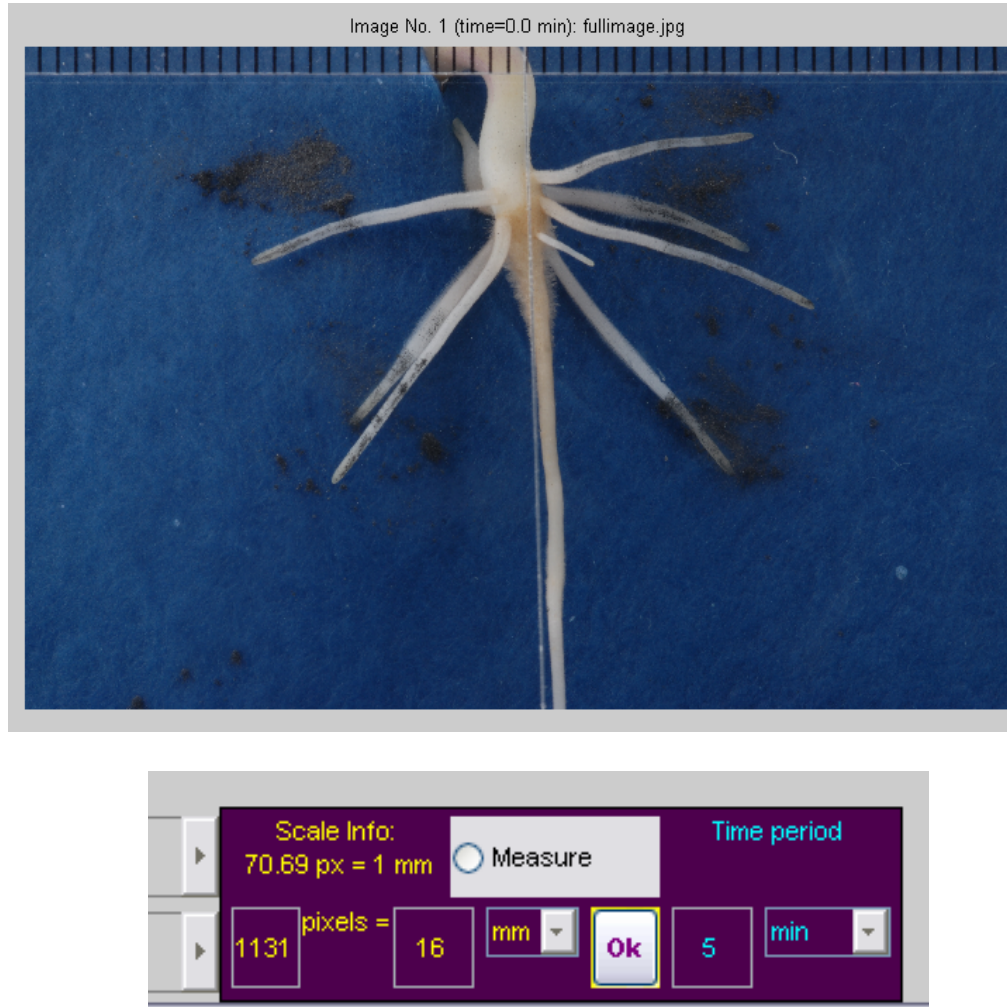

Figure 2
3. After the image is loaded in KineRoot, the main KineRoot window will appear with the image. Note the marks of the ruler at the top (Fig. 2) which are spaced at 1 mm intervals. Click “Measure” at the bottom of the window and then draw a line from any ruler mark to another parallel to the edge of the ruler by holding down the left mouse button (Fig. 2).
4. As soon as you release the left mouse button the length of the line you have just drawn in pixels will appear in purple box below “Scale Info” (Fig. 2). Enter the length of the line in physical units by counting how many mm marks it spans and